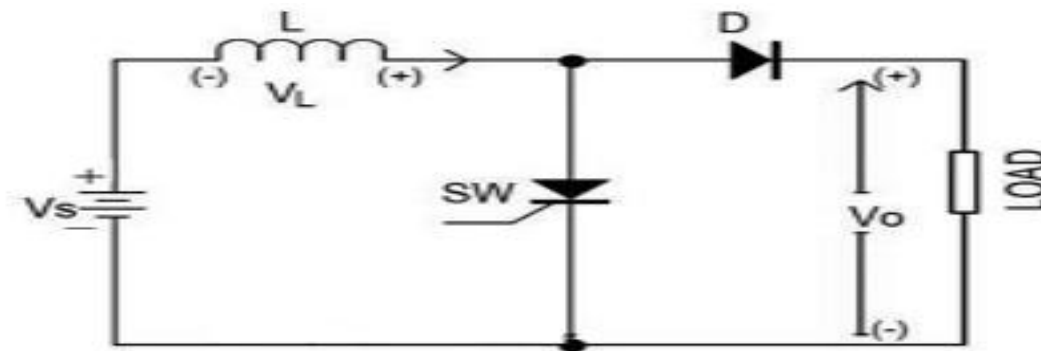

Fig. 10.2 Step up chopper
1. Make the circuit connection as per the circuit diagram shown in Fig.10.2.